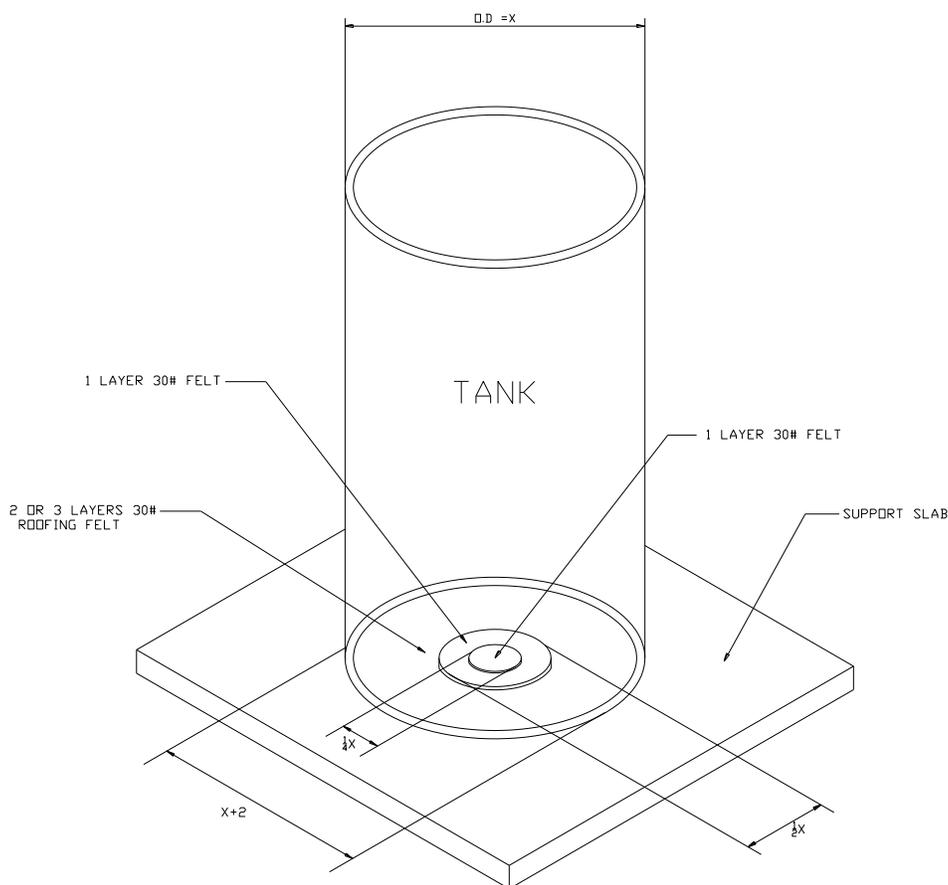

Figure 1 – Roofing Felt Placement On Slab
- d. Each flat bottom unit should be set on a cushioning pad to minimize stresses caused by seams, shrinkage distortion, and/or support base irregularities. Where irregularities are less than 1/2 inch (12.7 mm) in depth; several layers of 30 lb. roofing felt equal in diameter to the outside diameter of the equipment plus 2 inches (0.0. + 2 in.), should be laid directly on the surface of the support base. The center of the pad should be built- up by the addition of two layers of the same material, one equal in diameter to 1/2 and the other, 1/4 the diameter of the equipment, Figure 1.